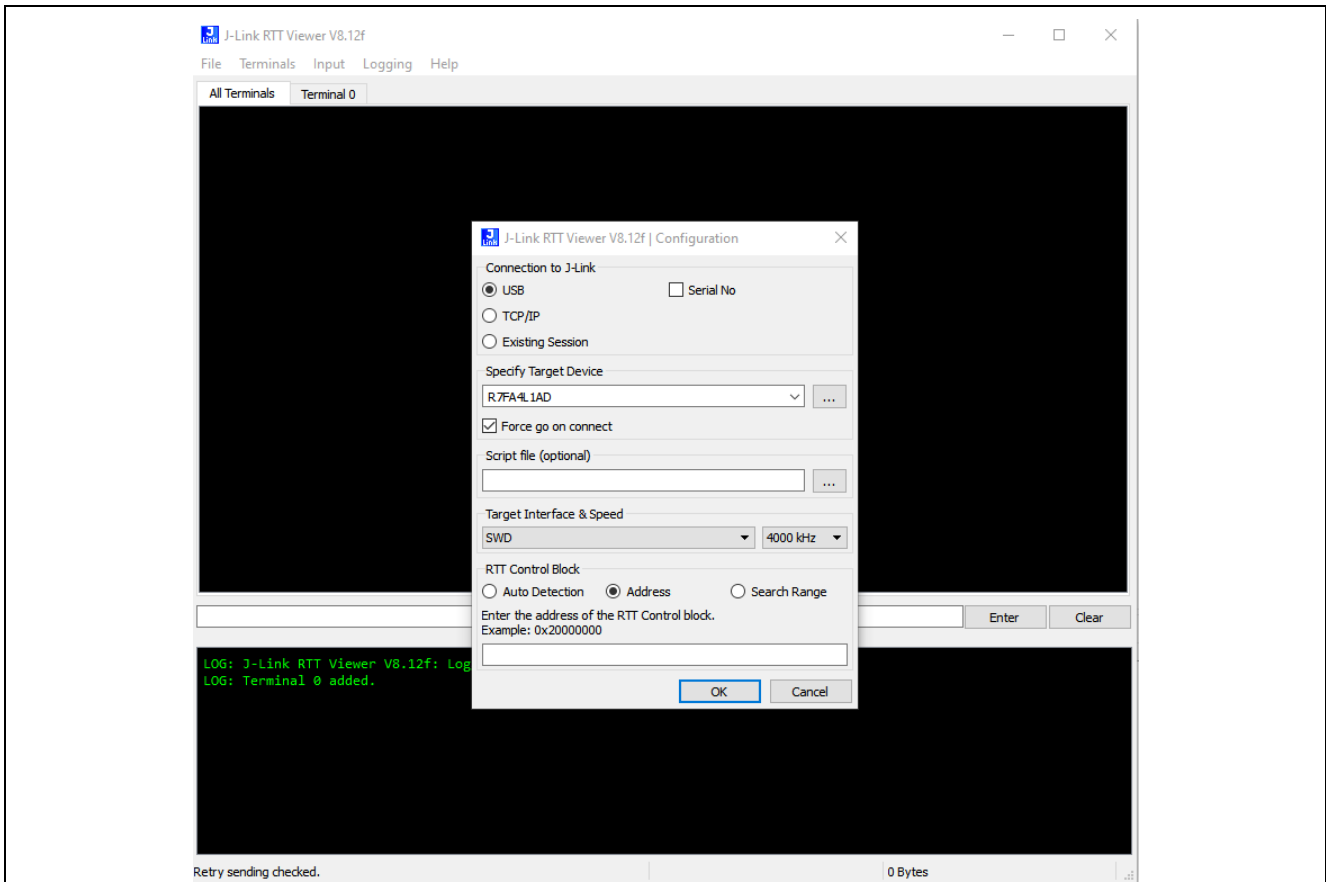

Figure 16. RTT Viewer configuration
- f. RTT Control Block as **Address** and enter the address obtained from the map file as shown in Figure 16. RTT Control Block address selection from map file and press OK.